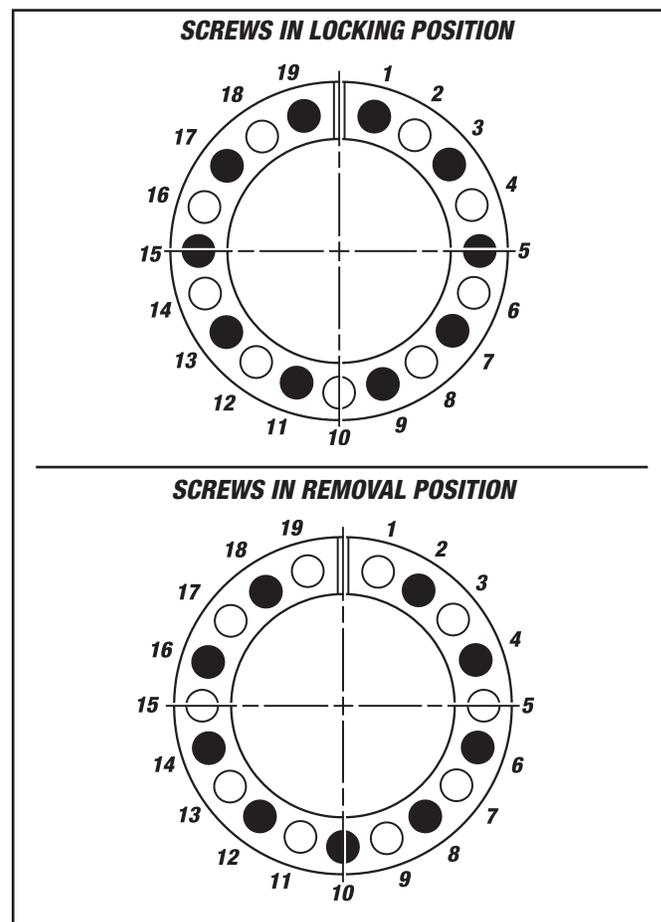

Figure 7.1 - Flywheel Locking Assembly Removal
To remove the Flywheel (#542) a special procedure must be followed to loosen the Locking Assembly (#540) from the Input Shaft. (See Figure 7.1)
Step 2 - Remove the remaining (9) Locking Screws and install them into the previous holes as shown in Figure 7.1.